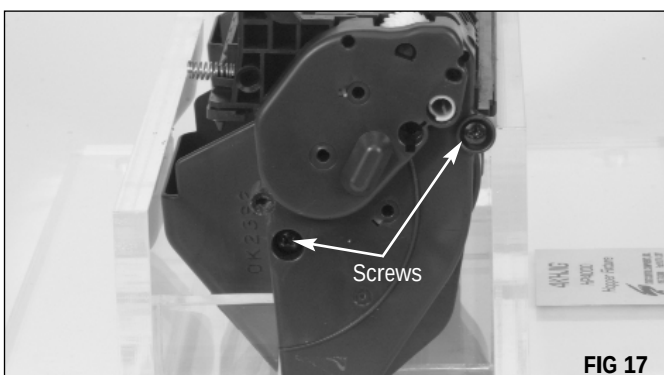

FIG 17
7. Remove the two screws from the end plate (FIG 17). Remove the gear housing end plate.